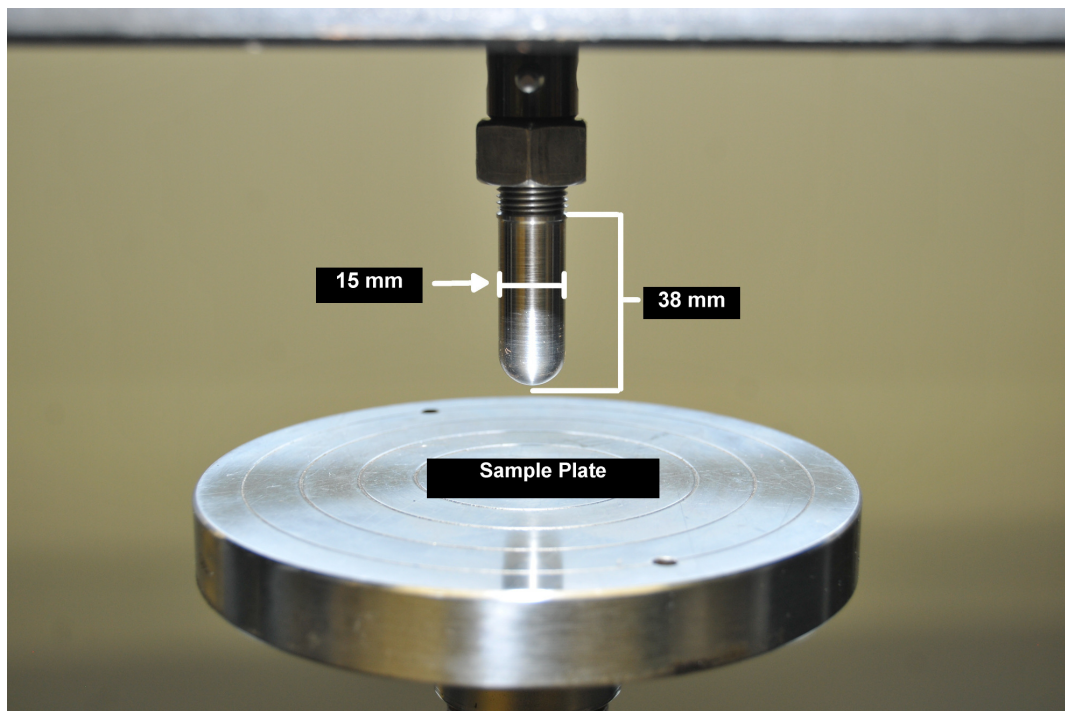

Figure 1: Test Setup.
Refer to Figure 1
Steel indenter of no less than 38 mm in length with a 7.5 mm spherical radius. Shown in Figure 1.
2. Place the sample so the area to be tested is perpendicular to the indenter head, See Figure 1. The area tested should be as flat as possible.